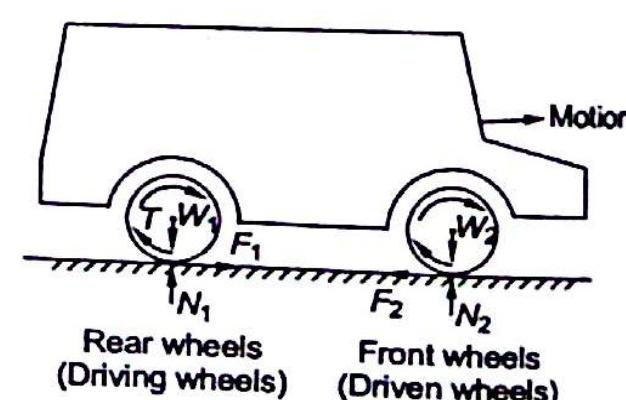

Fig. 6.15
- (ii) **Driving and Driven wheels of an automobile:** Consider a rear wheel drive vehicle as shown in Fig. 6.15, travelling towards right as shown. Driving torque on rear wheels is T . This torque is provided by the engine. If the road is smooth, $\mu = 0$, the wheels will simply rotate clockwise about their axis but the axle does not move forward, remains stationary and the vehicle does not move. This phenomenon is sometimes observed when the car is started on a slushy ground.